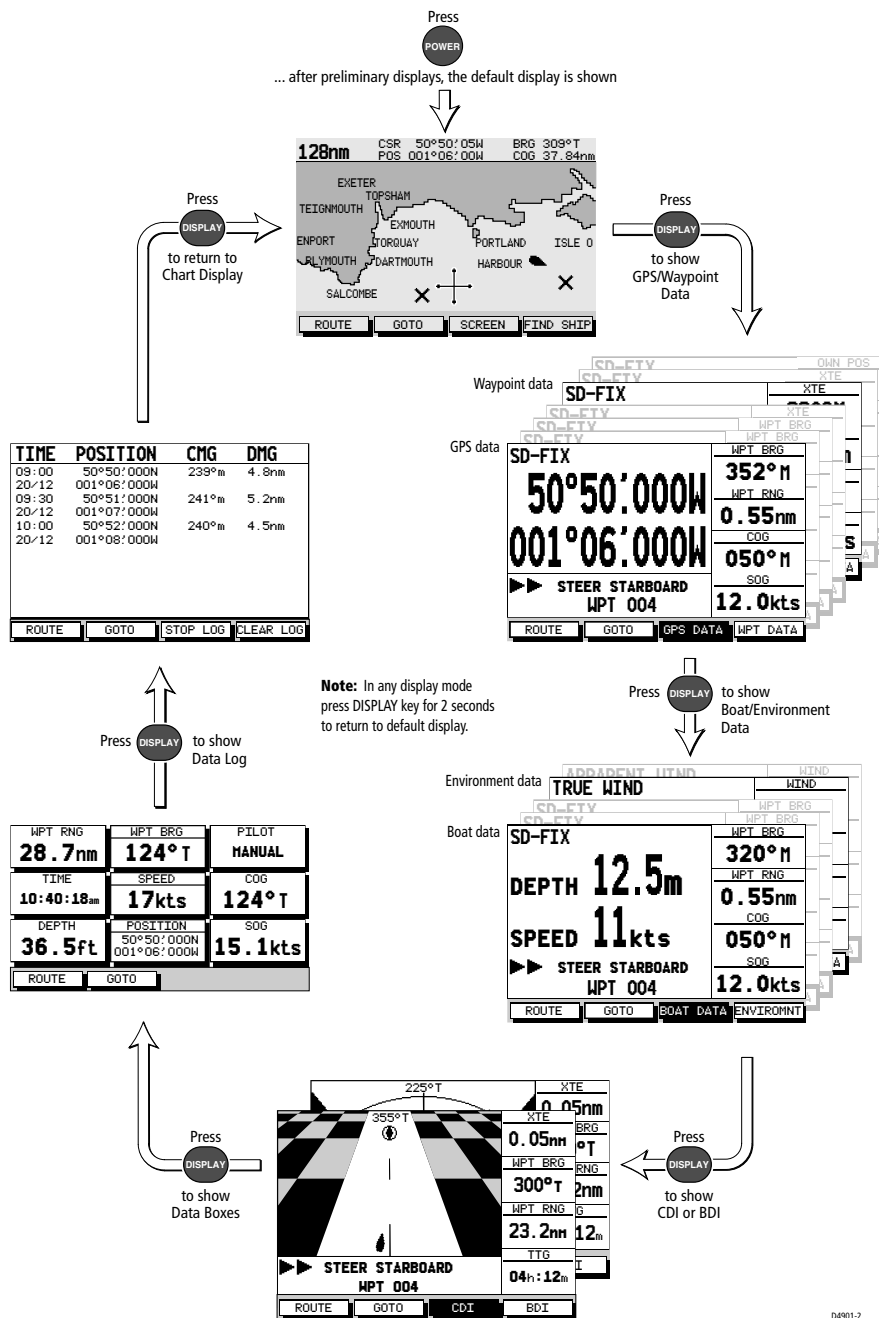

Figure 2-6: Display Modes
- Select the following modes by repeat presses of the **DISPLAY** key (*Figure 2-6*):
The range of pages is listed in *Selecting the Display Mode* on page 2-4 and illustrated in *Figure 2-6*. The complete range of pages is described fully in *Data Display Pages* on page 3-7.